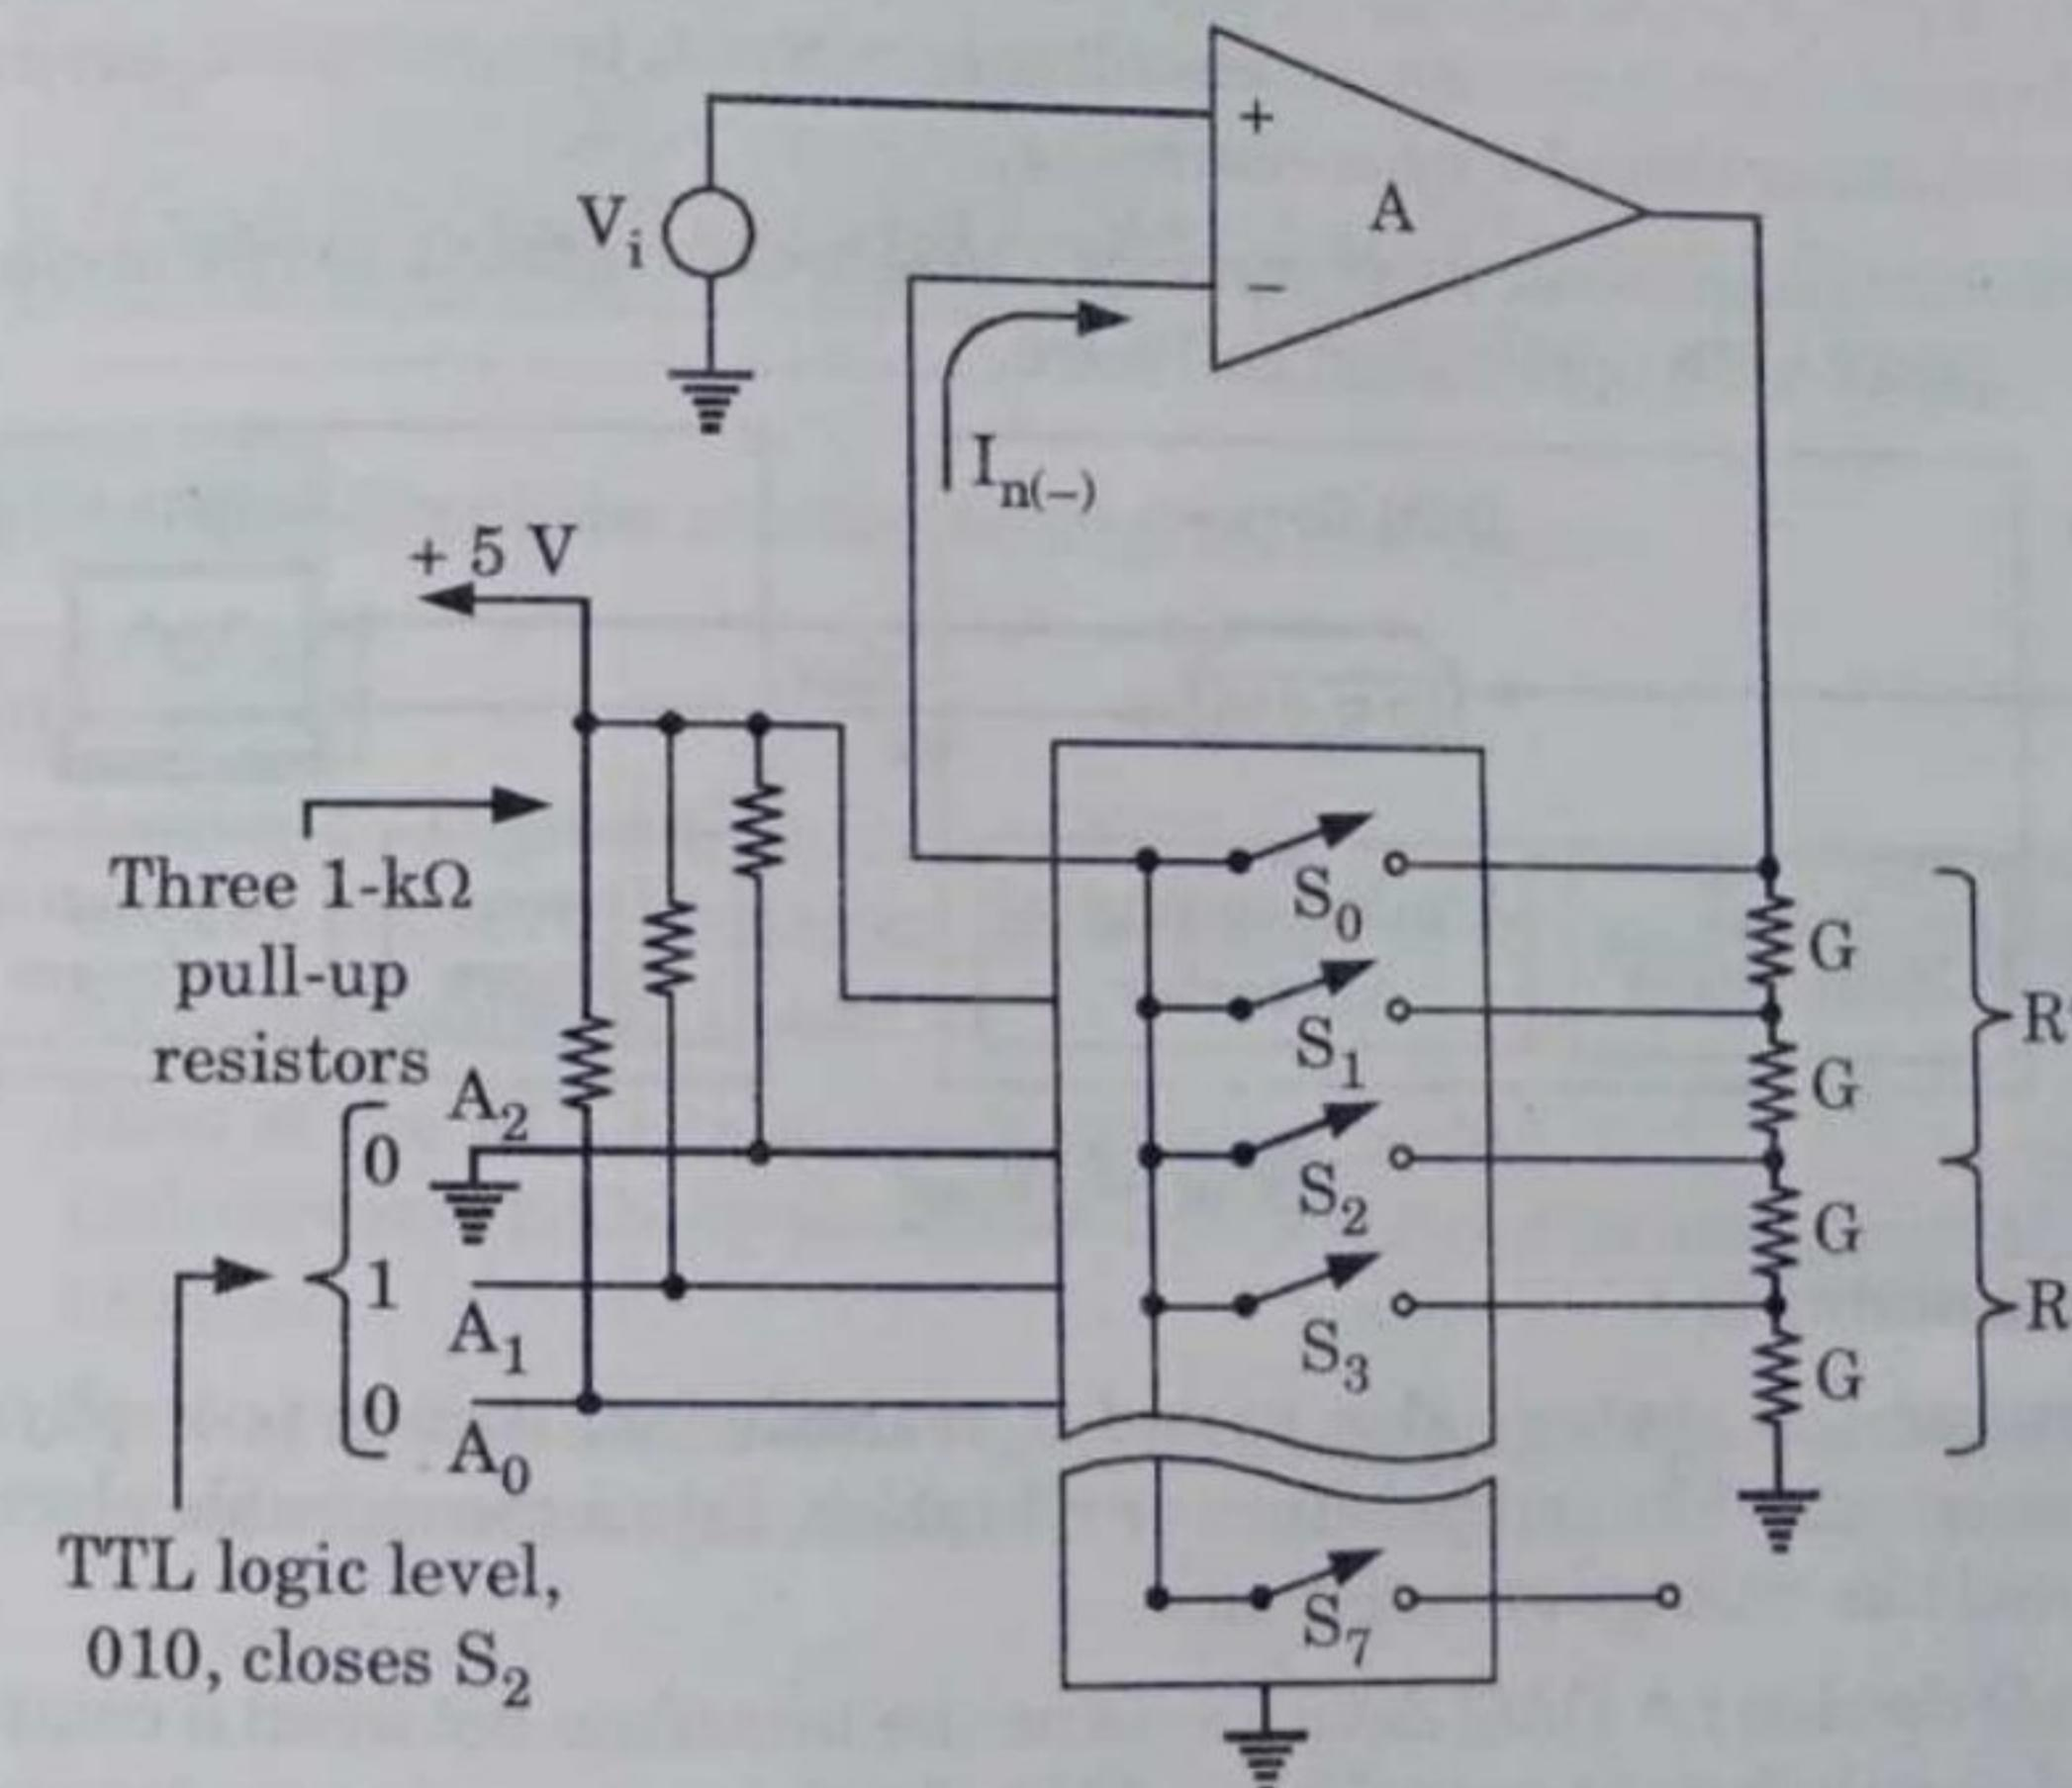

Fig. 4.9.1.
- An external computer or another logic or binary signal controls the addressable inputs of the analog switch so it selects a certain resistor for particular gain as shown in Fig. 4.9.1.